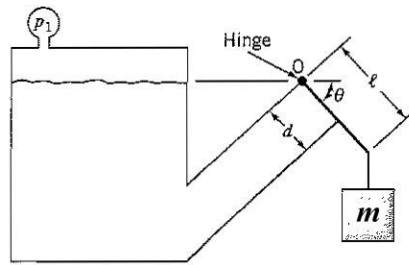

Figure P2.91
2.91 Figure P2.91 shows a vessel of constant width W that contains water of density ρ . Air is introduced above the surface of the water at pressure p_1 . There is a rectangular blow-off safety lid of width W and length ℓ hinged without friction at point O , which is located at the same height as the water surface. At what pressure will the lid open? Express the answer in terms of W , d , ℓ , θ , ρ , and m , the mass keeping the lid closed.